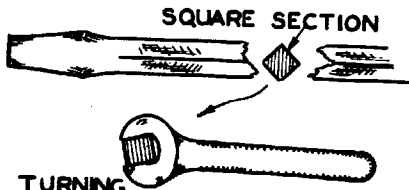

FIG. 3 TURNING A SQUARE SHANK SCREW DRIVER WITH AN OPEN END WRENCH
4. For tightening large screws, select a square shanked screw driver and use a wrench that fits the square section of the blade (Fig. 3). Turn the screw driver with the wrench. Keep the pressure on the handle to keep the tip in the slot.